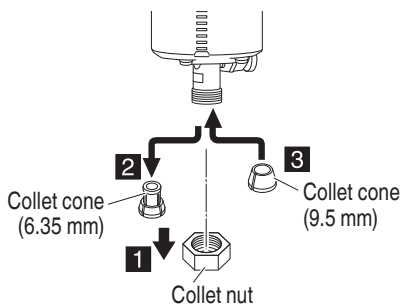

Fig. 11
- (1) Securing the shaft, remove the collet nut, and exchange the collet cone.
- (2) Attach the nut, insert the bit, and tighten the nut. (Fig. 11)